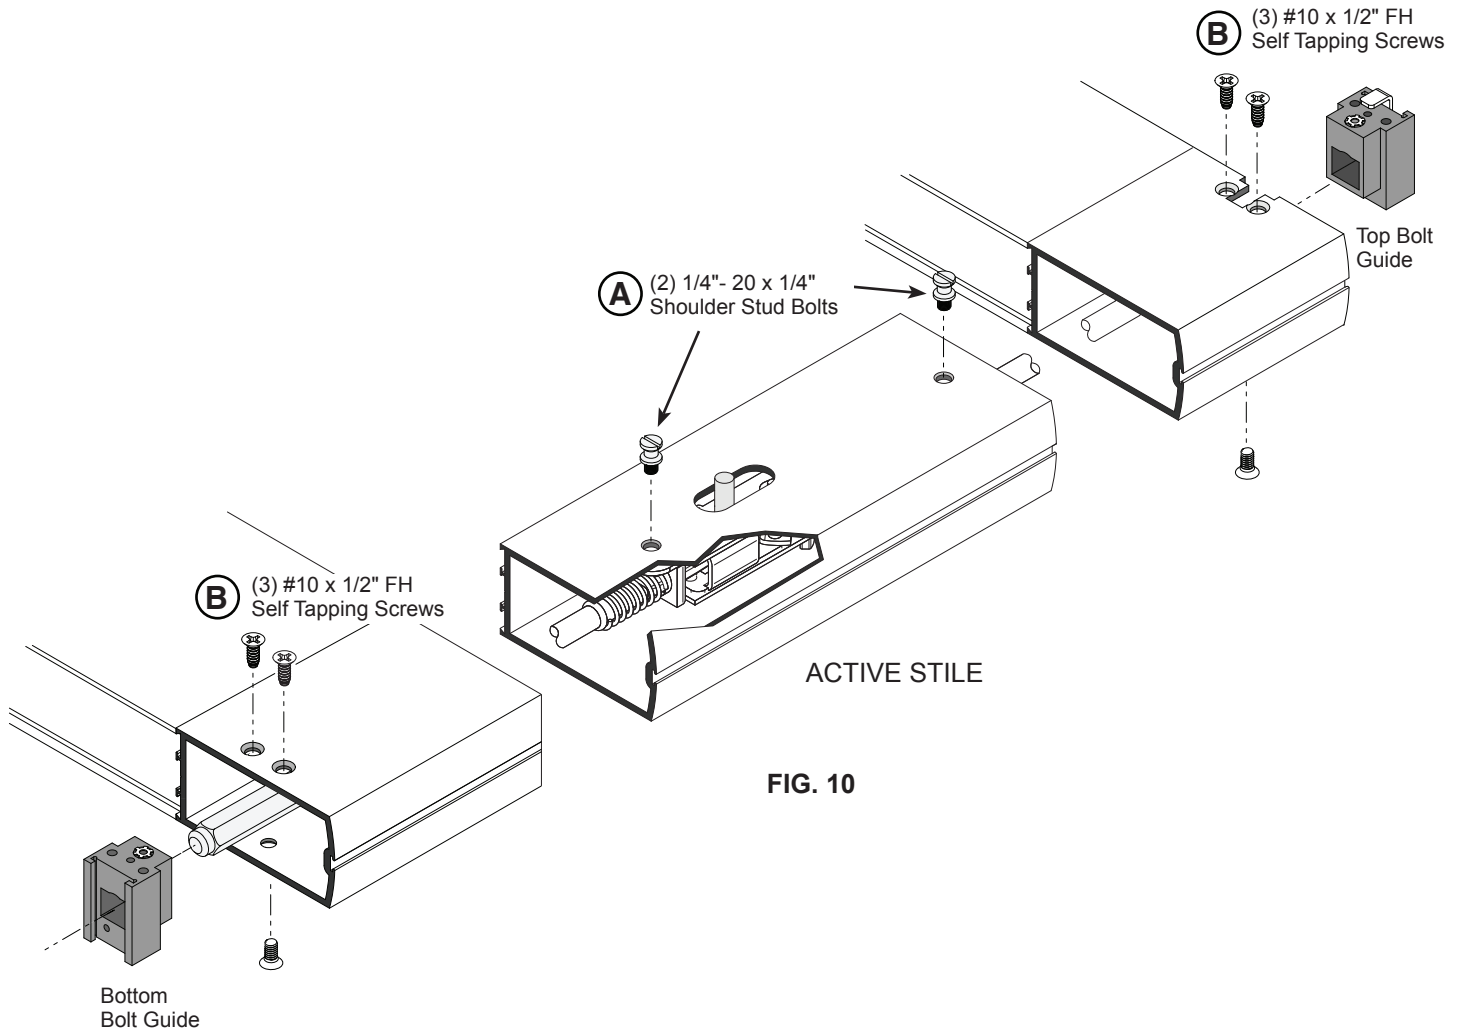

FIG. 10
2. Align actuator pin through the slotted cut-out on interior face of stile, fastening with (2) **(A)** 1/4"- 20 x 1/4" shoulder stud bolts (Fig. 10).
4. Install the top bolt guide assembly (3) **(B)** #10 x 1/2" FH self tapping screws at both the top and bottom of active door stile. (2) holes on the interior face of stile and (1) hole on the exterior face of stile.
5. Install the bottom bolt guide assembly (3) **(B)** #10 x 1/2" FH self tapping screws at both the top and bottom of active door stile. (2) holes on the interior face of stile and (1) hole on the exterior face of stile.